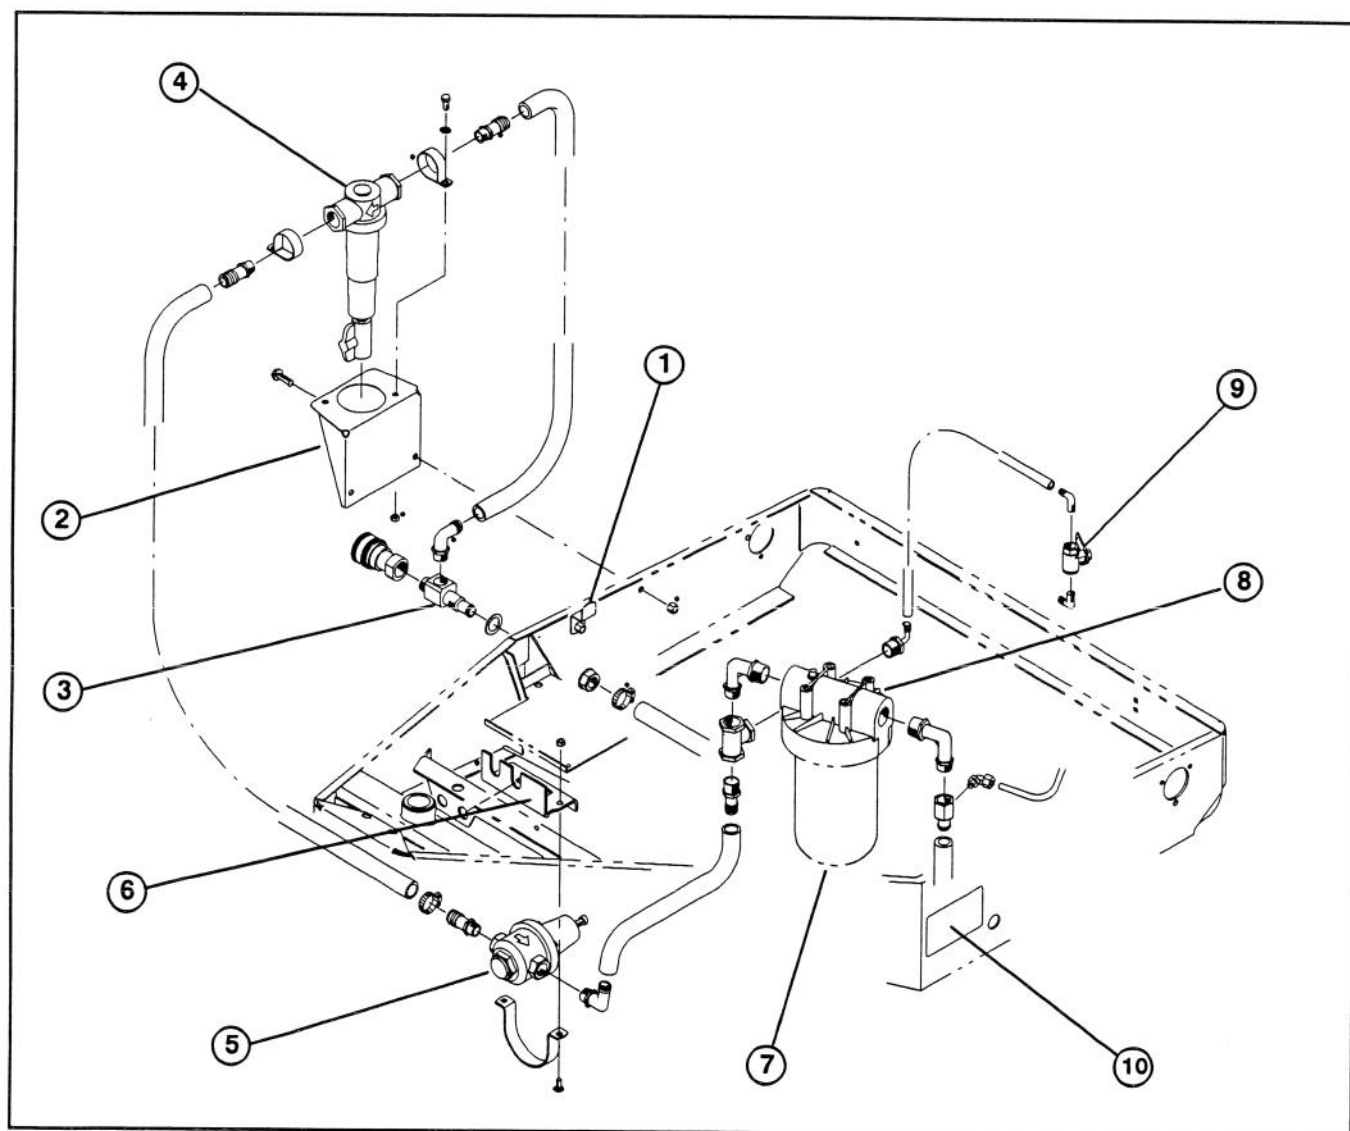

Figure 2
4. Remove capscrew and nut securing belt retainer to side of machine (Fig. 2).
5. Using capscrew and nut, secure front end of filter bracket to outside of machine and belt retainer to inside of machine (Fig. 2).
6. Using bracket as a template, mark location on right side of machine, for rear bracket mounting hole. Drill a .406" dia. hole in side of machine and secure with a 3/8-16 x 1-1/4" lg. capscrew and locknut (Fig. 2).
right side of machine (side of machine opposite control panel), as shown in figure 2.
8. Mount new 3/4" x 38" lg. hose to old and new bulkhead fittings with (2) new hose clamps (Fig. 2).
9. Assembly R-clamps and male adapter fittings to pre-filter, as shown in figure 2.
10. Mount pre-filter assembly to filter bracket with (2) 5/16-18 x 3/4" lg. capscrews, washers and locknuts (Fig. 2). Arrows on pre-filter must point toward front (tiller end) of machine.
11. Mount a male adapter fitting and a 90° elbow fitting to regulator valve, positioning fittings as shown in figure 2.
12. Mount regulator valve assembly to mounting bracket with a strap, (2) carriage bolts and locknuts as shown in figure 2.
13. On front bulkhead, loosen bulkhead nuts enough to insert regulator valve mounting bracket between them. Insert bracket and tighten nuts to secure bracket in place (Fig. 2).
14. Install a new 90° fitting to right side of water filter head. Position fitting as shown in figure 2.
15. Install previously removed, tee fitting, small 90° elbow fitting and straight fitting to new 90° fitting on right side of filter head. Position fittings as shown in figure 2.
16. Install a new adapter fitting to old 90° fitting on left side of filter head. Position fitting as shown in figure 2.
17. Mount a 3/4" x 22" lg. hose to 90° fitting on bulkhead adapter and inlet fitting on pre-filter with (2) new hose clamps (Fig. 2).
18. Mount a 3/4" x 31" lg. hose to outlet fitting on pre-filter and inlet fitting on regulator valve with (2) new hose clamps (Fig. 2).
19. Mount a 3/4" x 5" lg. hose to outlet fitting on regulator valve and inlet fitting on water filter with (2) new hose clamps (Fig. 2).
20. Install a new 90° fitting to spray valve, as shown in figure 2.
21. Mount the 3/8" hose to inlet tee fitting on water filter and new 90° fitting on spray valve with (2) hose clamps (Fig. 2).
22. Mount the 1/4" hose to outlet fitting on water filter and pressure gauge (Fig. 2).
23. Mount a 3/4" x 44 lg. hose to outlet fitting on water filter and inlet fitting on pump with (2) new hose clamps (Fig. 2).